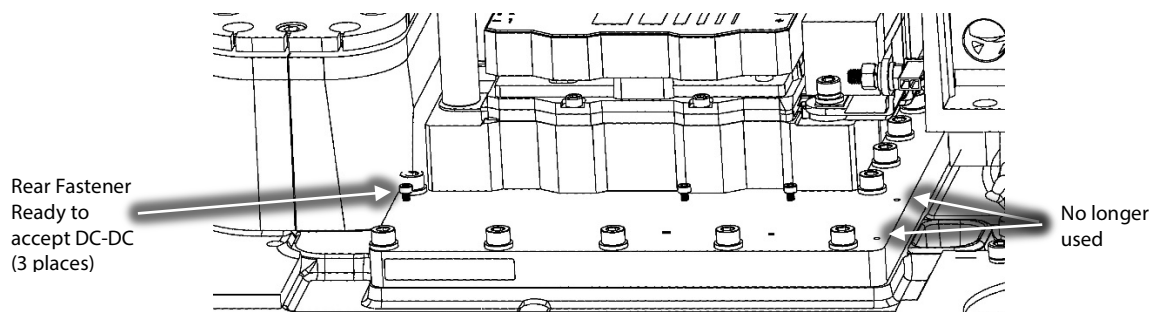

Figure 12 – Rear Fastener Installation
2. Install the new rear fasteners that secure the DC-DC Converter to the Inverter Heat Sink Plate. Do not tighten these fasteners; leave enough space under the fasteners to allow the DC-DC Converter to slide under the fasteners. Refer to Figure 12 (Rear Fastener Installation).